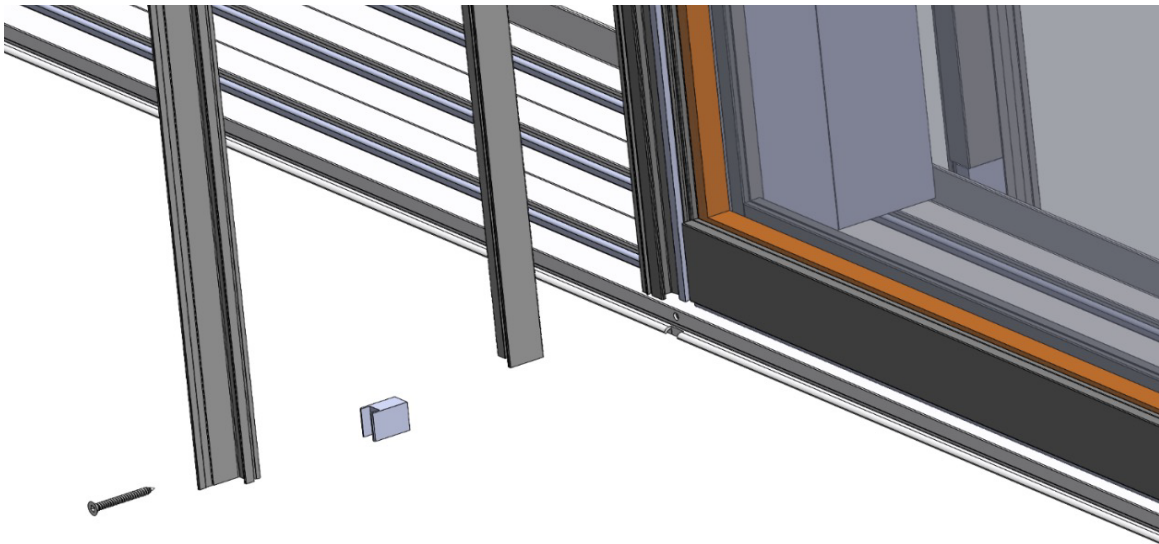

Figure 1
6. Locate the drilled holes on the outside face of the threshold and position the exterior post interlock frame member/s vertically so the holes in the threshold align with the holes in the post interlock/s. Observe the space between the exterior pocket walls and the nail fin/s of the post interlock/s. For single pocket doors adjust the threshold assembly so the space between the pocket wall and the post interlock nail fin, perpendicular to the plane of the door, is equal to the space between the end of the threshold assembly and the adjacent wall where the lock jamb will be mounted. For double pocket doors adjust the threshold assembly so the space between the pocket walls and the post interlock nail fins is equal. Figure 1 shows the exploded view of the post interlocker assembly, consisting of the two-piece post interlocker, assembly screw, and spacer block. The groove in the spacer block should be facing away from the sill/head.
16. Install the post interlock frame member/s using the pre-drilled holes in the head and threshold. Raise or lower the head until the holes align properly. Anchor the post interlock members using #10 x 1.25" screws. Figures 1 & 4 show the exploded view of the post interlocker assembly, consisting of the two-piece post interlocker, assembly screw, and spacer block. The groove in the spacer block should be facing away from the sill/head.